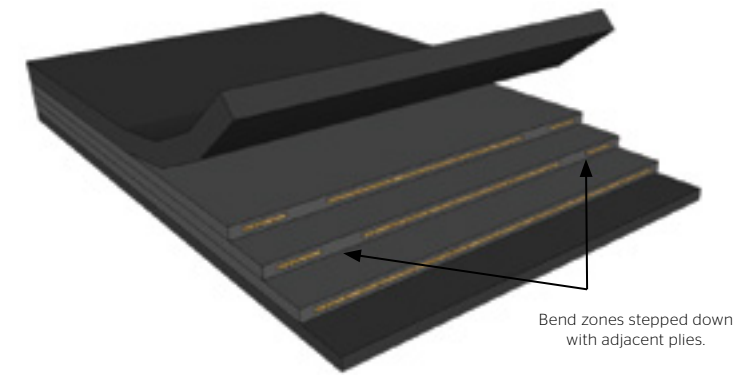

Fig. 8-2
6. The Bias Step Splice is seen in Fig. 8-2. Notice how the bend zones are even stepped down with the adjacent ply. The bend zones for most Pipe Belts will have a fabric modification. The modification may allow the inside rubber to penetrate through the fabric which will make it impossible to accurately pull/separate the plies.